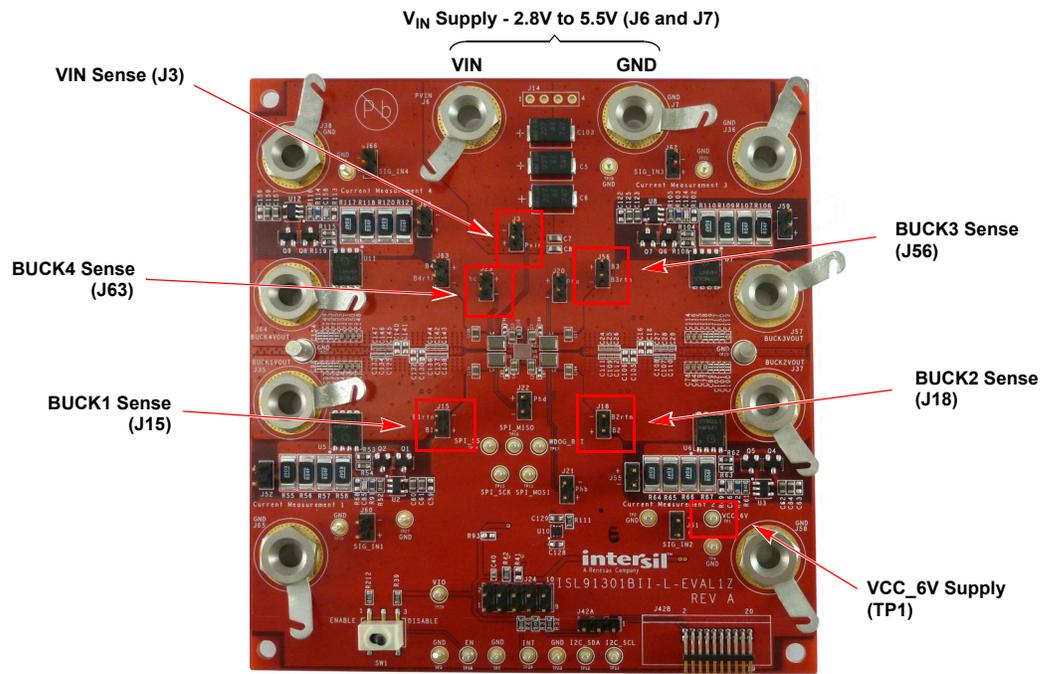

Figure 11. ISL91301BII-L/H-EV1Z Efficiency Measurement Connections
- (1) Connect a power supply at J6 (V_{IN} supply), with the voltage set between 2.5V and 5.5V (ISL91301BII-L-EV1Z) or a voltage between 2.8V and 5.5V (ISL91301BII-H-EV1Z). The current limit should be set high enough to support the maximum load current with additional head room. If the power supply supports remote sense lines, use a Kelvin connection on J3. Otherwise, connect a multimeter at J3.
- (2) Apply 6V to TP1 (VCC_6V) to initiate the startup sequence and all four outputs will turn on. To get an accurate single channel measurement, disable the other three outputs using the GUI.
- (3) Turn on the electronic load at VOUTx. The connection should be made at J35 (VOUT1), J37 (VOUT2), J57 (VOUT3), or J64 (VOUT4). Make sure the load current does not exceed 3A per phase (ISL91301BII-L-EV1Z) or 5A per phase (ISL91301BII-H-EV1Z), and the correct wire size is used when attaching the electronic load.
- (4) Measure the output voltage with a multimeter. The voltage should regulate within datasheet specification limits.
- (5) To determine efficiency, measure input and output voltages at the Kelvin sense test points (S+ and S-), which are located at the J3 (V_{IN} SENSE) and J15 (BUCK1 SENSE), J18 (BUCK2 SENSE), J56 (BUCK3 SENSE), or J63 (BUCK4 SENSE) headers. Measure the input and output currents from the VIN power supply and the electronic load. Calculate efficiency based on these measurements. For detailed setup information, refer to Figure 11 on page 13.